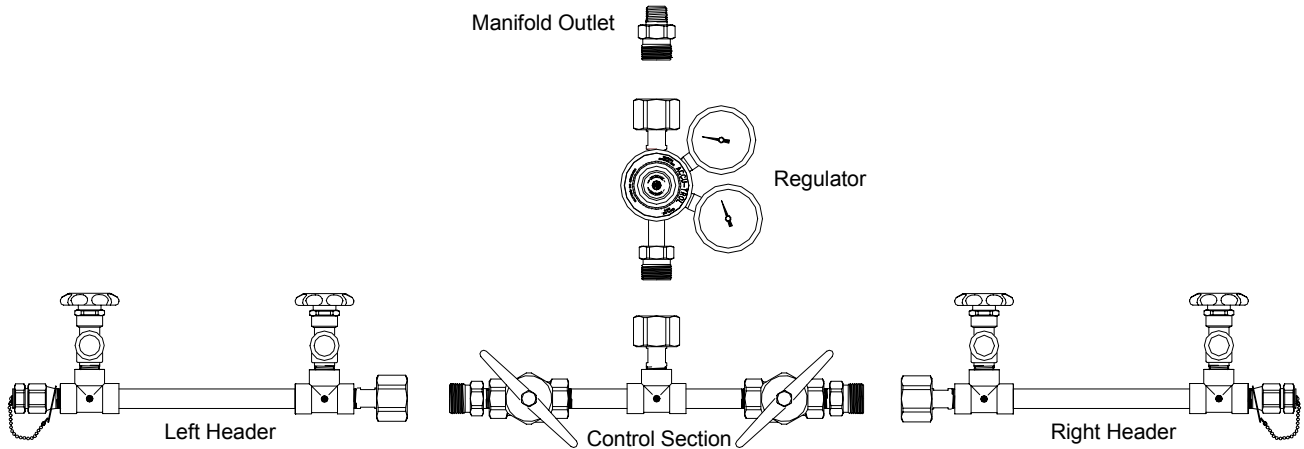

FIGURE 2
1. Assemble the regulator to the control section (Figure 2).
2. Assemble the headers to the control section inlets as shown in Figure 2.